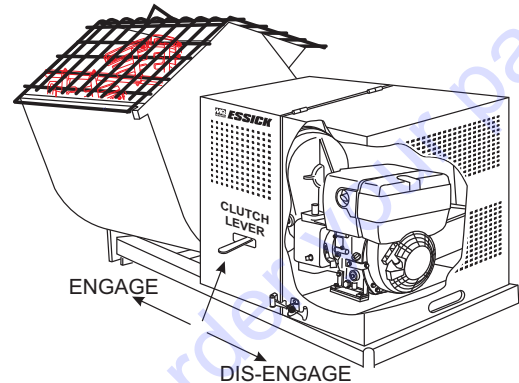

Figure 22. Clutch Engagement Lever
1. Make sure the **clutch engagement lever** (Figure 22) is in the dis-engage position (lever is pointing towards the **engine end**).
4. **Push** the clutch engagement lever forward (Figure 22), toward the **tow end** of the mixer. When engine starts adjust throttle lever so that paddle shaft inside mixer rotates between 30 - 40 RPM's. The number of RPM's will vary depending on the load.